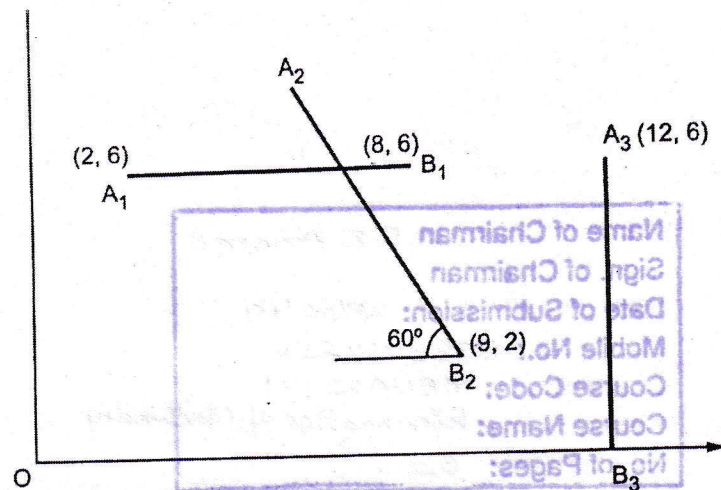

Figure 4
- Q.6) a) Synthesis a four bar mechanism to move a rigid body AB [6] successfully through three position given by the figure 4: